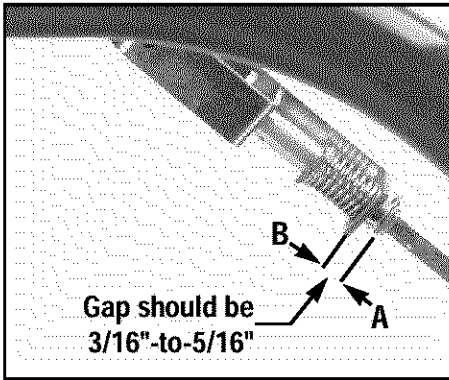

Figure 2-9: While squeezing Forward Clutch lever, measure gap between end of bracket and E-ring.
(b) While squeezing the lever, measure the gap between the E-ring (A, Figure 2-9) and the lower end of the clutch rod bracket (B). The gap should be between 3/16" and 5/16".